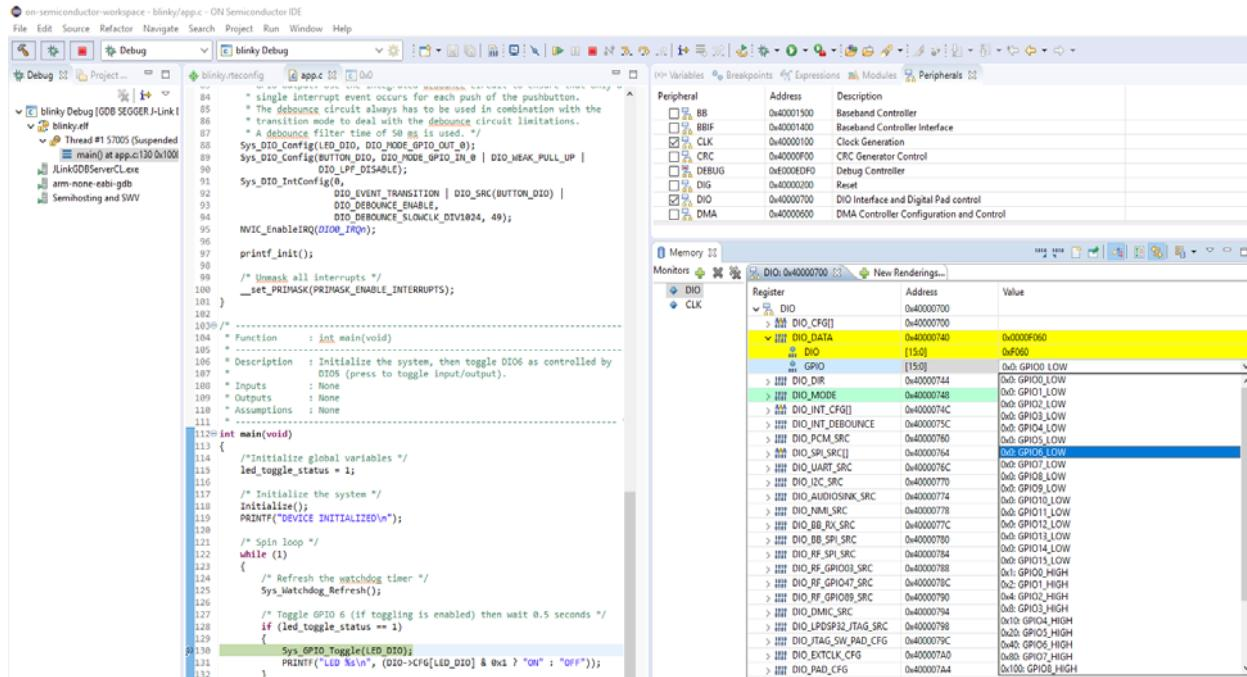

Figure 14. Toggling RSL10 DIO Using the Peripheral Registers View: Before
6. Press F6 to step through the code. You can observe that this register's bit 6 toggles its state when `Sys_GPIO_Toggle(LED_DIO)` is executed (in this case, from 0xF060 to 0xF020). The register turns yellow to indicate that you have activated real-time monitoring for it (see Figure 14 on page 17).
- To manually change the register value, click on the **Value** field of the GPIO register to change the (**HIGH**/**LOW**) state of **GPIO6**. Figure 14 shows the view before making the change, and Figure 15 illustrates the view after making the change. You can observe that the LED (DIO6) on your board changes state.